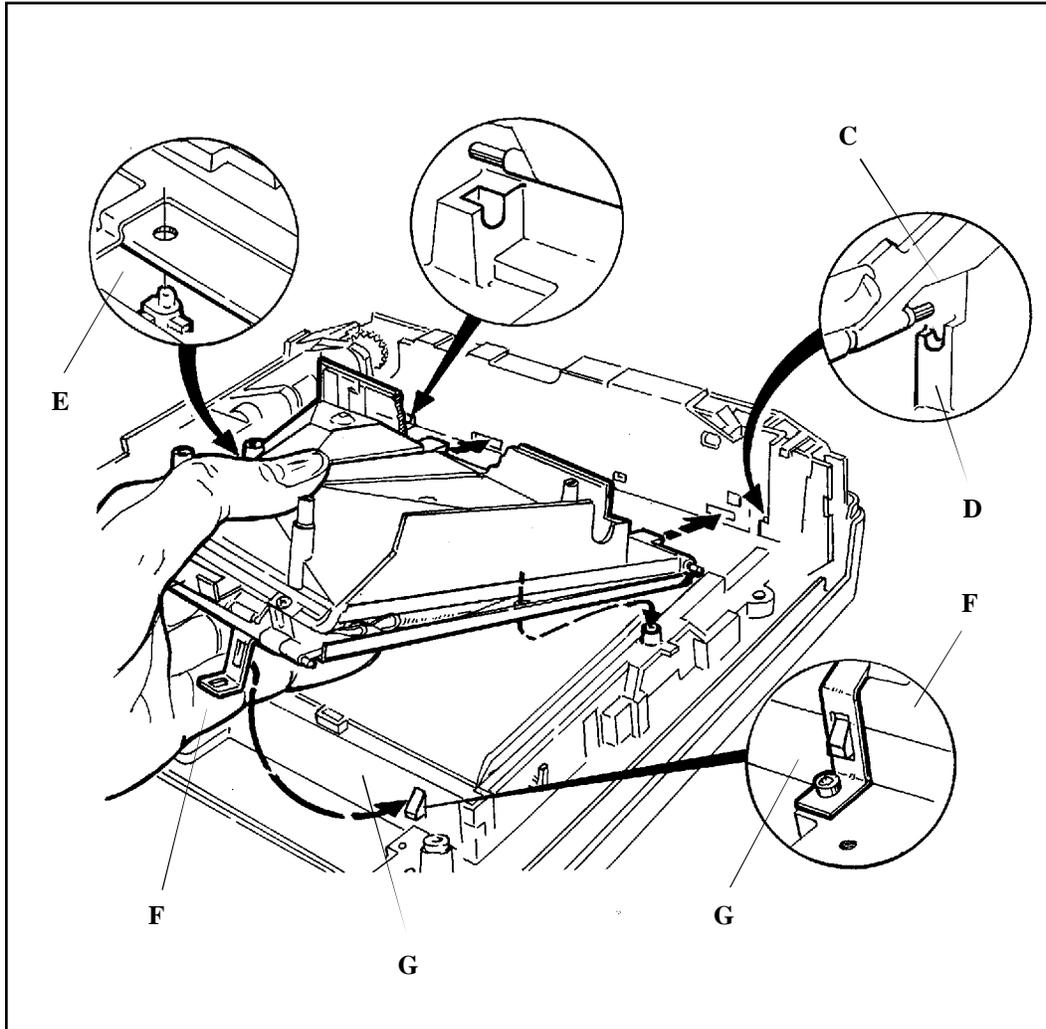

Figure 3-33. Aligning and Attaching Bellows/Cone Assembly to Mainframe
- c. With the Assembly still held in a collapsed position, lower it onto Mainframe until it seats over the two locating pins **E** (Figure 3-33). Apply enough downward pressure until the legs **F** are fully engaged over their shoulders **G** and snap into place.
- d. Replace the two screws attaching legs **F** to Mainframe (Figure 3-33).